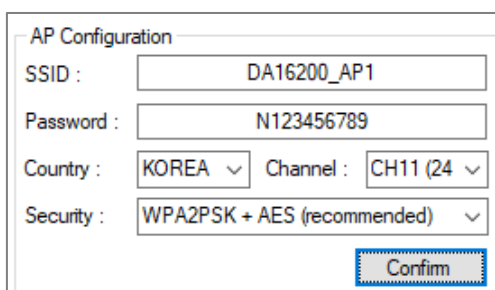

Figure 20: AP Configuration
2. Set the fields **SSID**, **Password**, **Country**, **Channel**, and **Security** mode. See Figure 20.